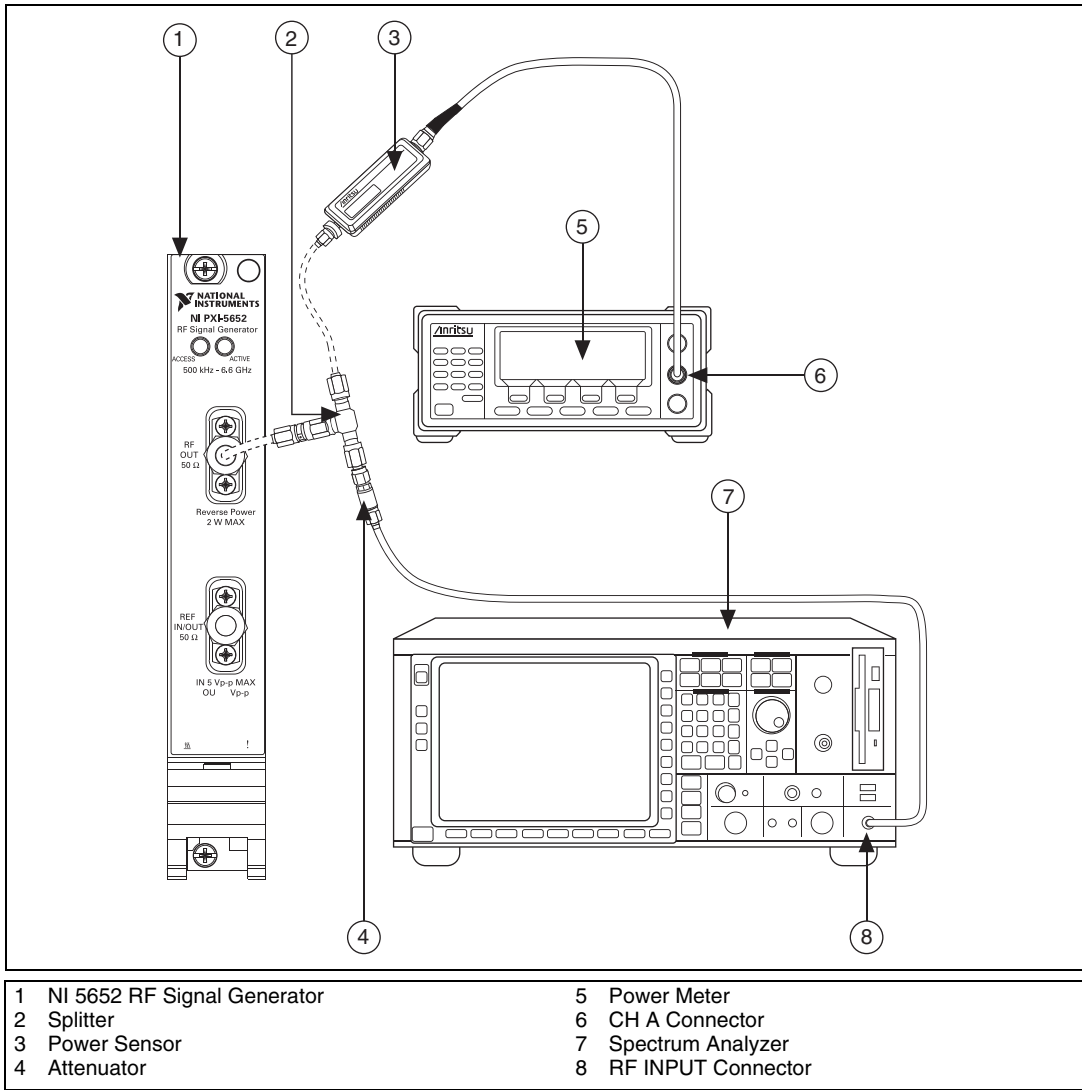

Figure 2. Power Splitter Characterization Setup
Several procedures in this document require using a splitter that has been characterized to remove error from future measurements. Complete the following steps to characterize a splitter using an NI 5652, power meter, and spectrum analyzer, as shown in Figure 2.
10. Connect the other available port of the 6 dB attenuator to the spectrum analyzer RF INPUT front panel connector as shown in Figure 2.